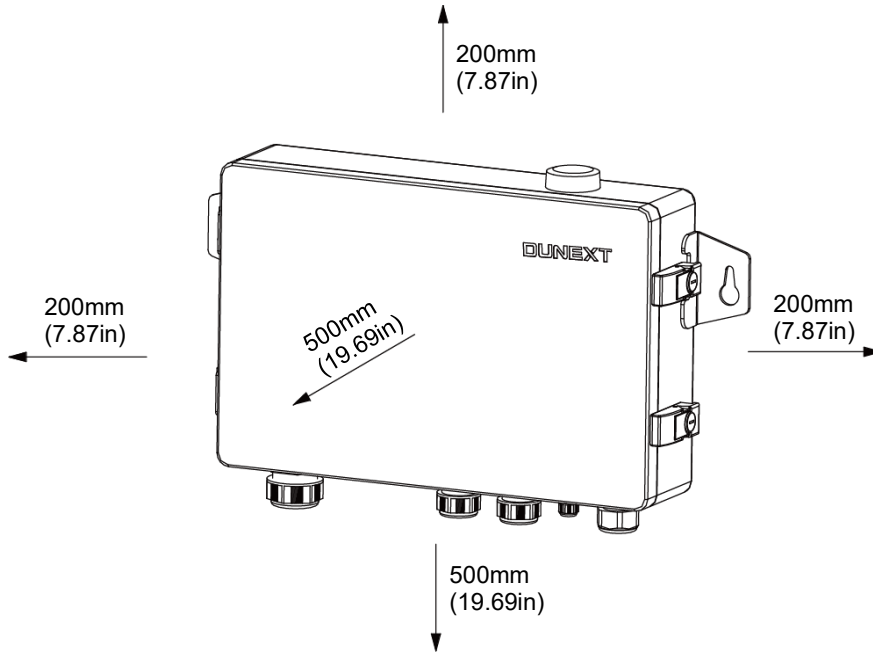

Figure 5-4 Minimum clearance required
- To allow the dissipation of heat and for the convenience of dismantling, clearances around the EMB-100 must be no less than the values refer to Figure 5-4.